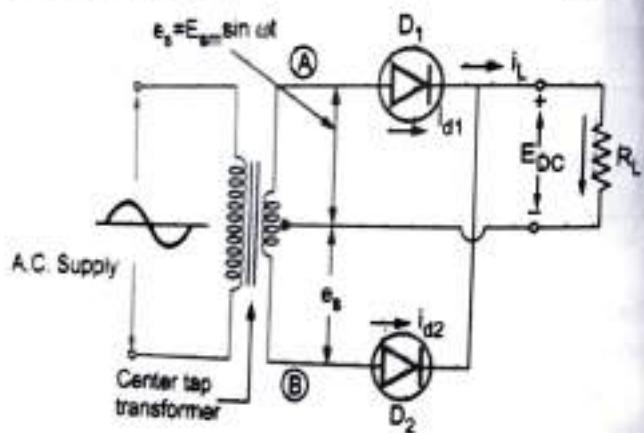

Fig. Q.27.1 Full wave rectifier
**Ans. :** The full wave rectifier circuit is shown in the Fig. Q.27.1